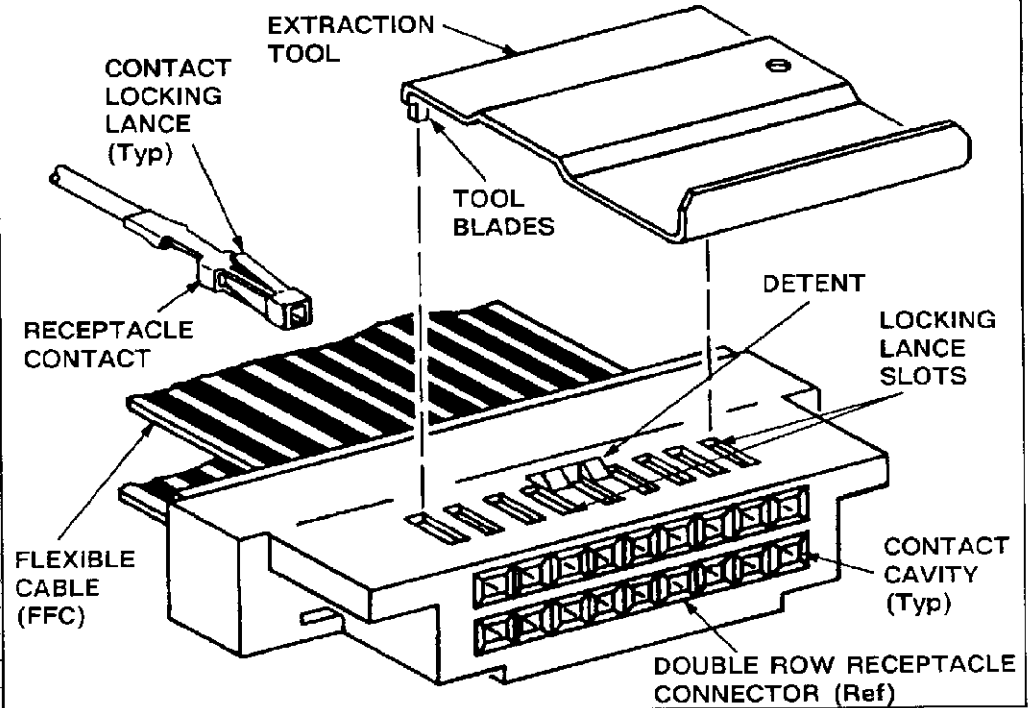
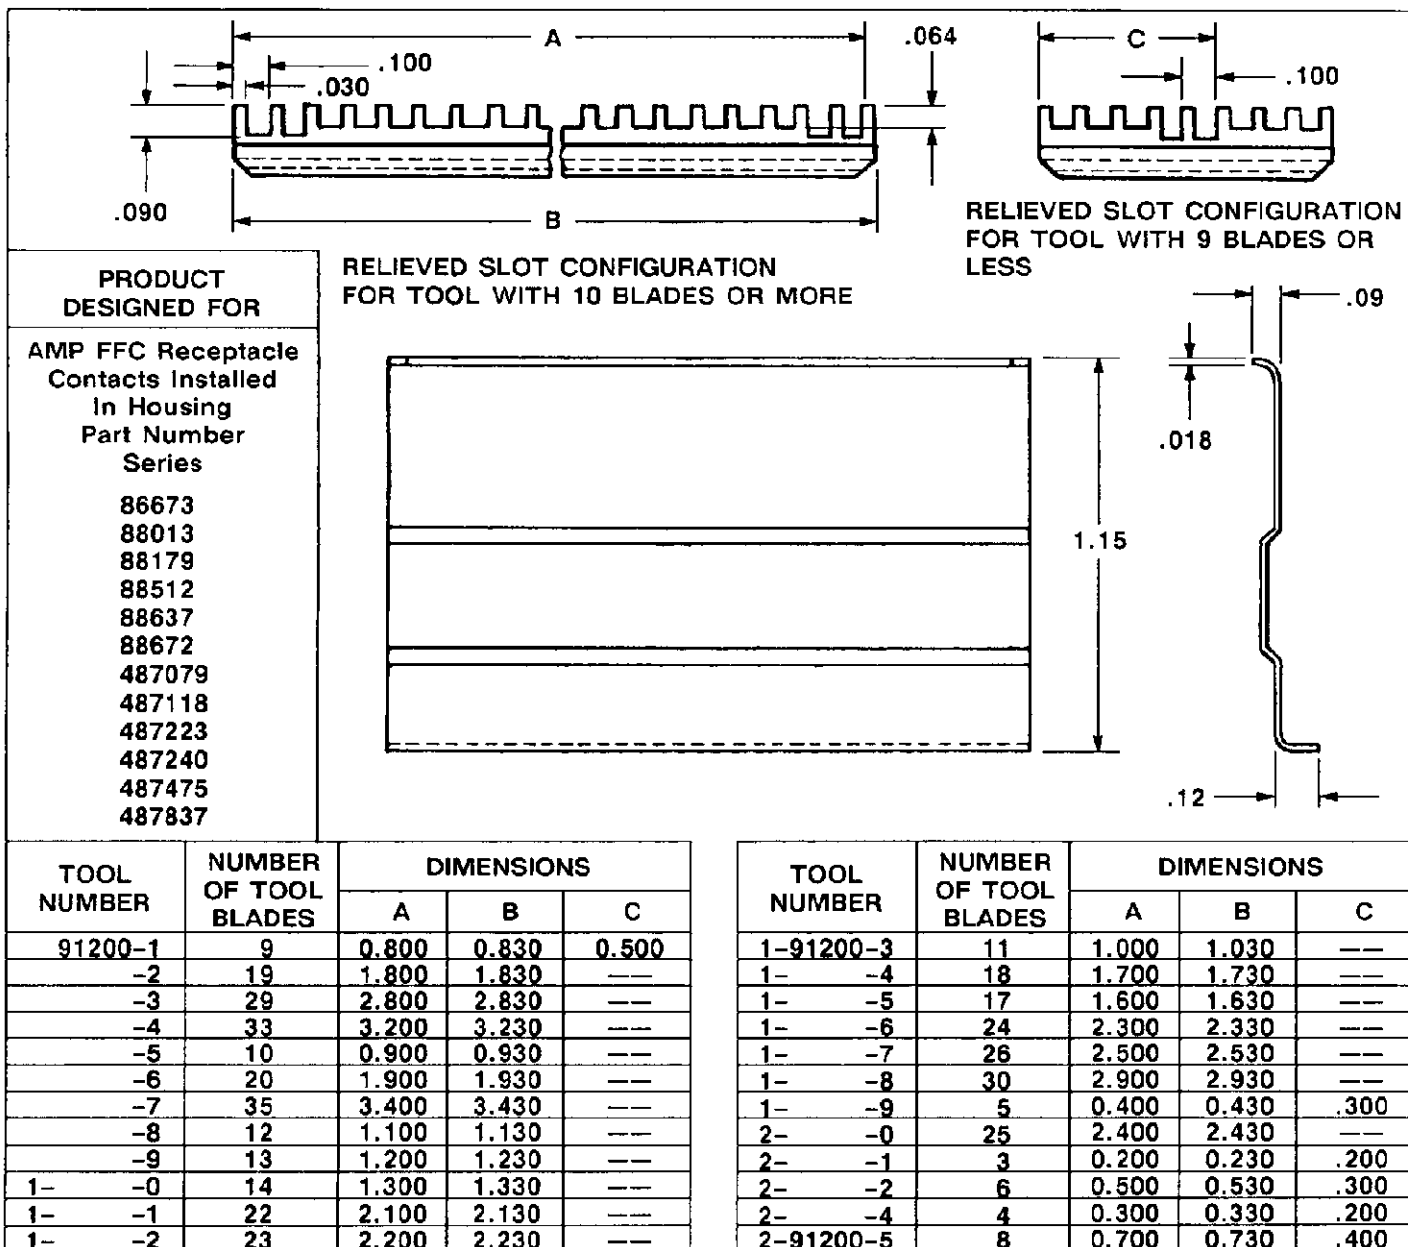

Fig. 1
Fig. 3
The AMP extraction tools listed in Figure 1 extract AMP Flexible Flat Cable (FFC) receptacle contacts from FFC receptacle connectors with side entrance locking lance slots. Refer to Figure 3 for connector part number series. (Refer to IS 7384, tool number 91047 for connectors with end entrance locking lance slots). Read these instructions thoroughly before removing any contacts.
Each tool features a specific number of tool blades that release the contact locking lances in the connector (see Figure 1). The number of tool blades must match the number of cavities in one row of the connector.
Refer to the chart in Figure 1 and select the appropriate tool matching the number of blades on the tool with the number of contact cavities in one row of the connector.
1. Align tool blades with locking lance slots as shown in Figure 1.
To ensure proper operation, the tool should conform to the dimensions provided in Figure 3. It is recommended